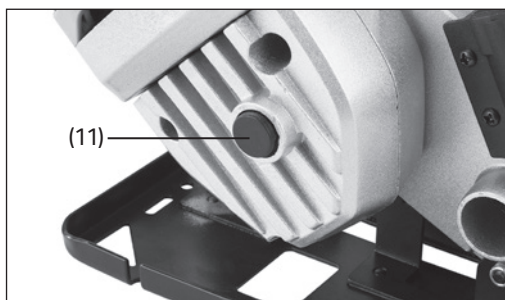
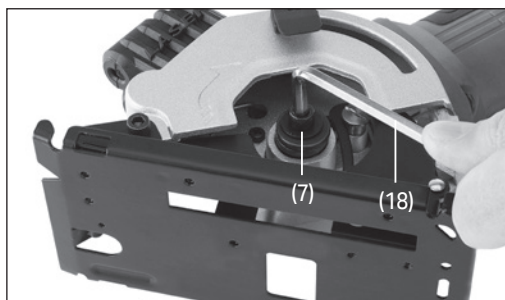
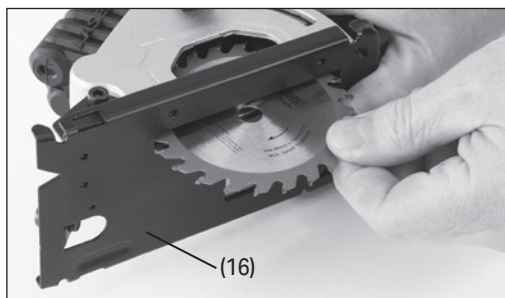

Fig. 2
Fig. 3
Fig. 4
6.2 Changing the Saw Blade (Fig. 2- Fig.4)
2. Press and hold the spindle lock button (11) and release the locking flange bolt (7) by turning clockwise using the hex key supplied (18). Remove the bolt. Fig.2 & Fig.3.
4. Release the plunge guard by pressing the plunge guard lock (13) and pushing the base plate (16) up to expose the saw blade. Fig.4.
7. Press the spindle lock button (11) until it engages. Then replace the saw blade locking bolt (7) and tighten.